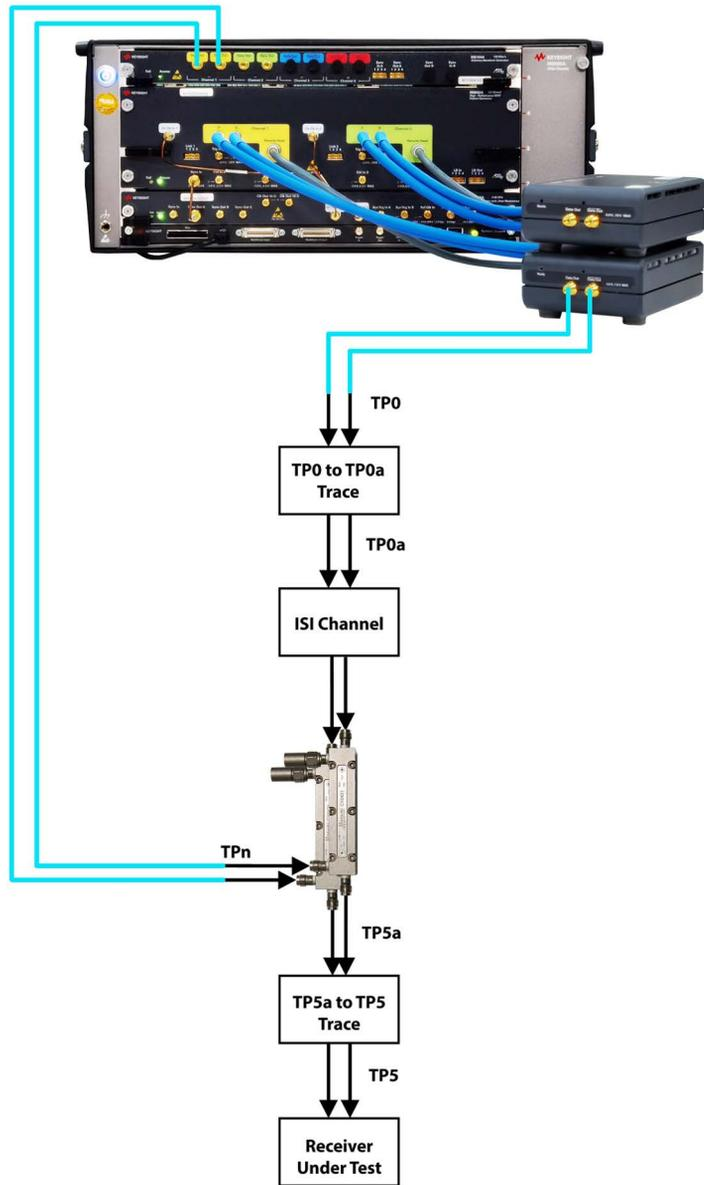

Figure 30 Interference tolerance test setup
- 3 Using the test setup shown in Figure 30 (that is, with Test Channel but without the noise source), initiate the Tx Equalization sequence.